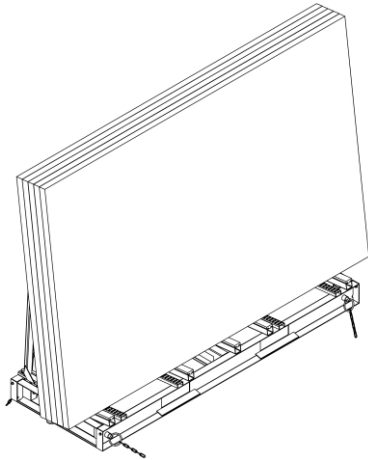

Figure 2.2
Step 2: Place the stone slabs (Figure 2.2).